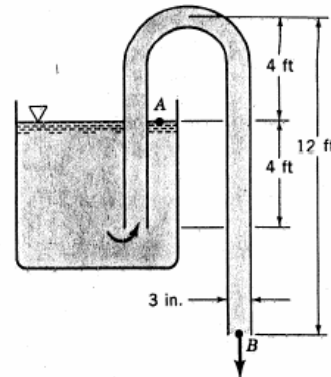

FIGURE P5.93
5.93 A water siphon having a constant inside diameter of 3 in. is arranged as shown in Fig. P5.93. If the friction loss between A and B is $0.8V^2/2$, where V is the velocity of flow in the siphon, determine the flowrate involved.